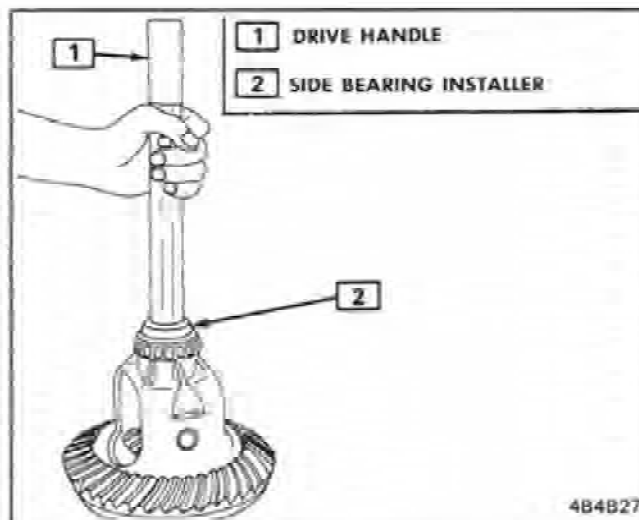

Fig. 27 Installing Case Side Bearings
5. Case side bearings as shown in Fig. 27.